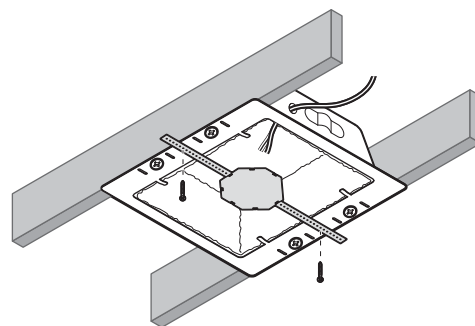

Fig. 5
STEP 5: Mount the bracket. See Fig. 5. (Optional)